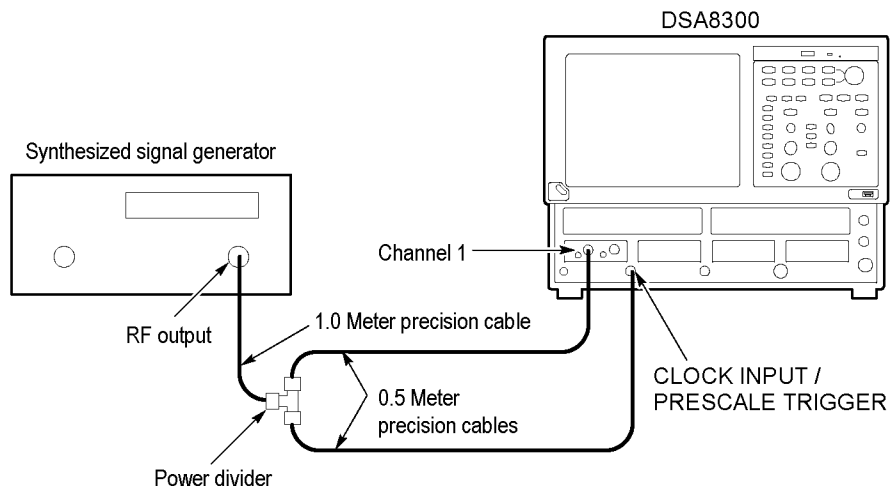

Figure 13: External prescaled trigger sensitivity test setup
2. Connect the test equipment (See Figure 13.)